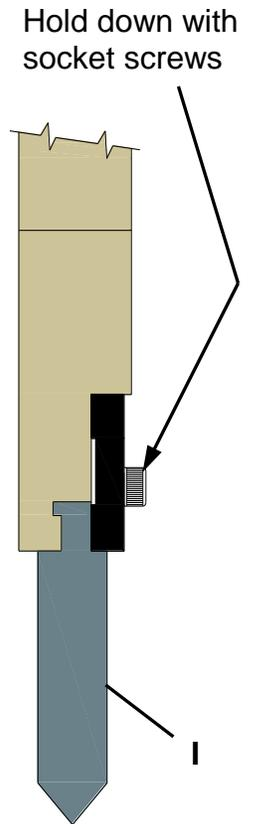

figure 7
3. Loosen the socket head hold down screws enough to slide the die (I) out (fig.7).